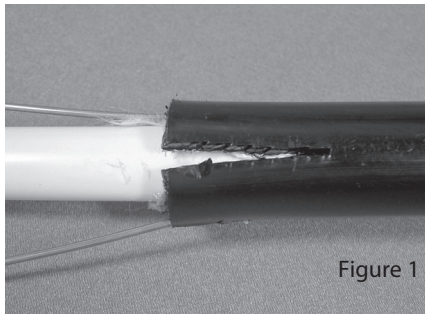

Figure 1
1. After preparing the cable per the closure installation instructions, slit the cable jacket and shield approximately 1" from the ring cut, between the strength members. (Figure 1)